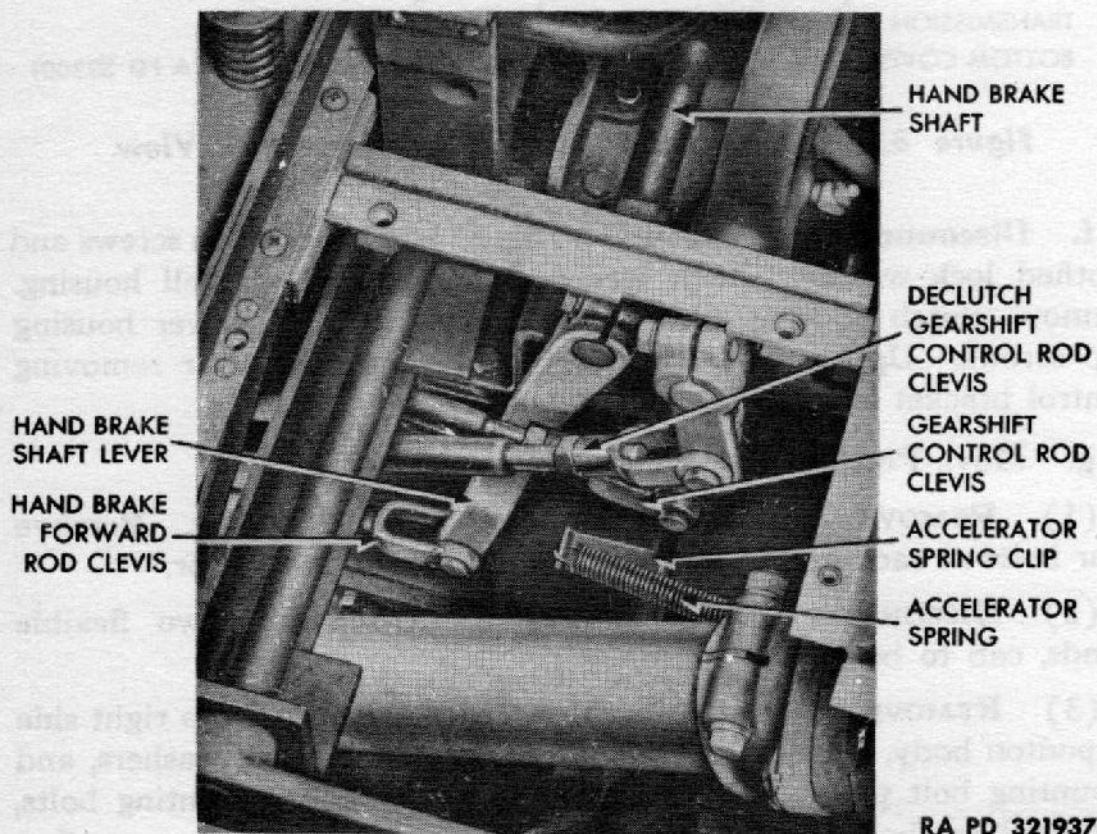

Figure 89 — Gearshift Control Rods and Linkage
k. Remove Hand Brake Shaft Lever (fig. 89). Disconnect hand brake forward rod clevis from hand brake shaft lever by removing cotter pin and clevis pin (fig. 89). Remove cap screw and lock washer at upper end of hand brake shaft lever. Tap hand brake shaft lever off hand brake shaft.
on clutch. Install the ten cap screws and lock washers which secure transmission to housing. On the second cap screw on right side, counting from top, attach accelerator spring clip (fig. 89). On the third cap screw on left-hand side, counting from the top, install bond strap and toothed lock washers. On the third cap screw on right-hand side, counting from top, install bond strap and toothed lock washers.